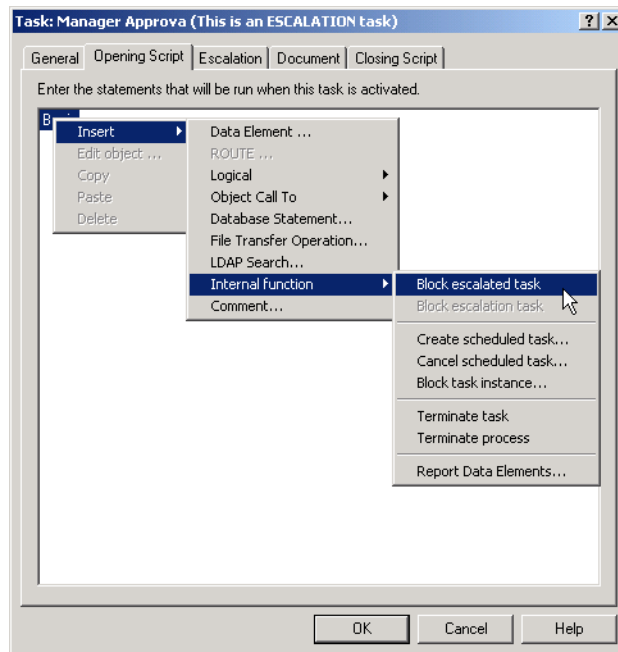

Figure 35-7. Escalation Task with Block Escalated Task being inserted.
- 1 From your Escalated task, click on the **Opening Script** tab, right-click on the Begin statement, and select **Internal Function**, then select **Block Escalated Task** (see Figure 35-7, below).